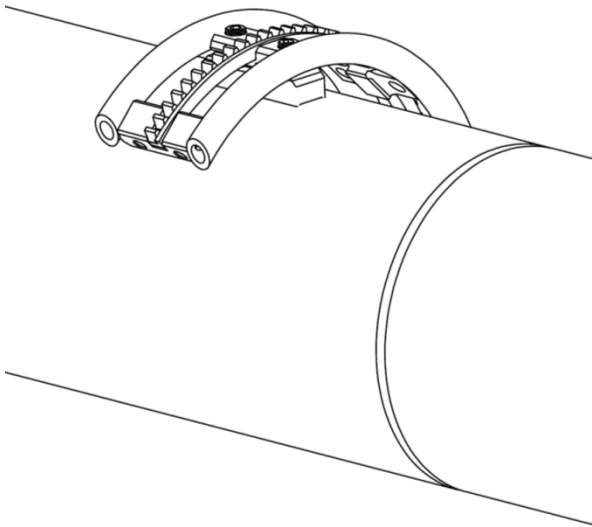

FIGURE 5 – ASSEMBLY STEP 2
2. Place one half of the track ring over the work surface with the threaded end nearer the top. Slide the track over the pipe angled with more of the track over the top of the pipe, so that the weight of the track is supported (see Figure 5 – Assembly Step 2).